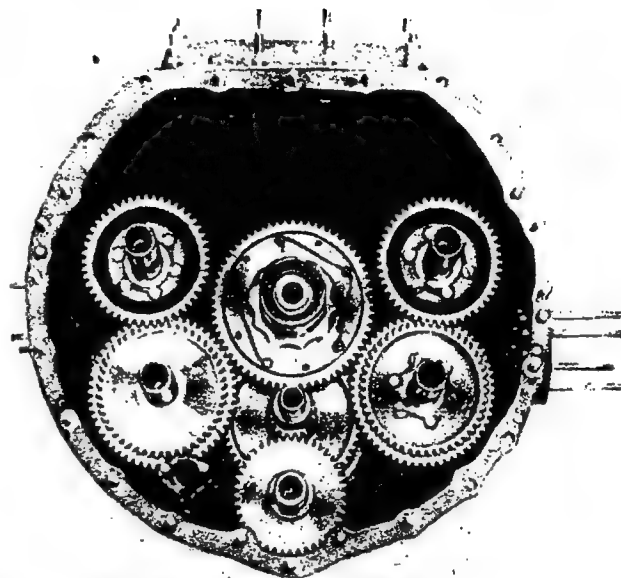

Figure 18—Location and Direction of Rotation of Accessory Drive Gears
10. The magnetos, generator, starter, fuel pump, oil pump, and other accessories are driven by a series of gears which are located in the supercharger rear housing. See figure 18.